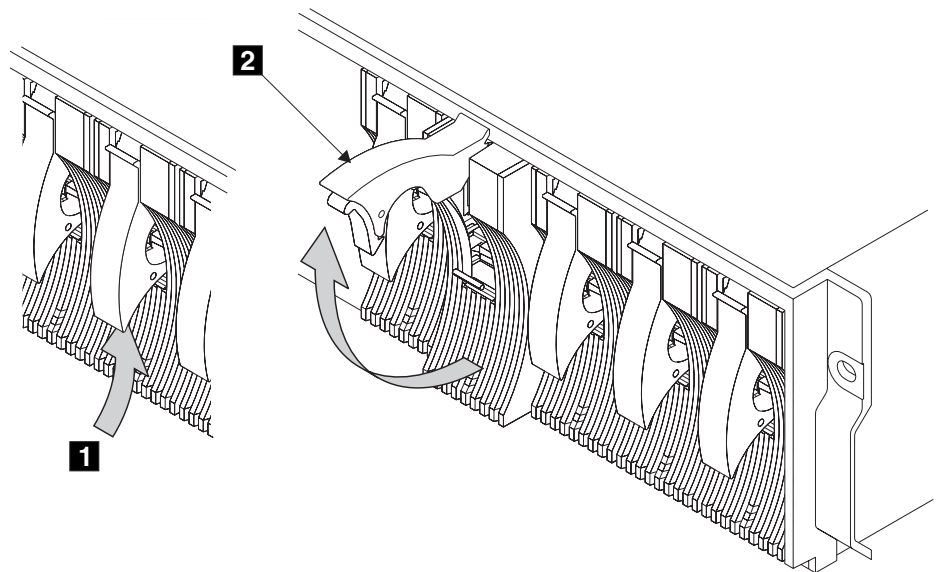

Figure 25. Opening the Handle of a Disk Drive Module
- Step 10. Refer to Figure 25.